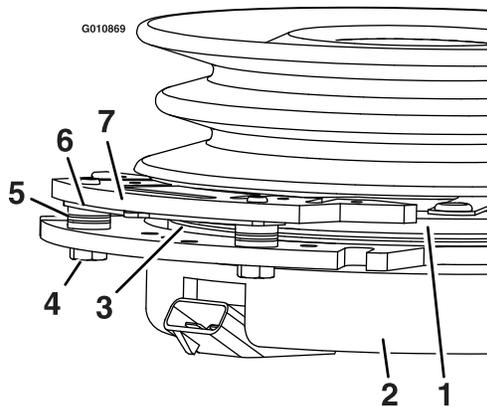

**Figure 67**
3. Remove the dust cap from caster and tighten the locknut (Figure 67).
4. Tighten the locknut until the spring washers are flat, and then back off a 1/4 turn to properly set the preload on the bearings (Figure 67).
**Important:** Make sure that the spring washers are installed correctly as shown in Figure 67.
5. Install the dust cap (Figure 67).